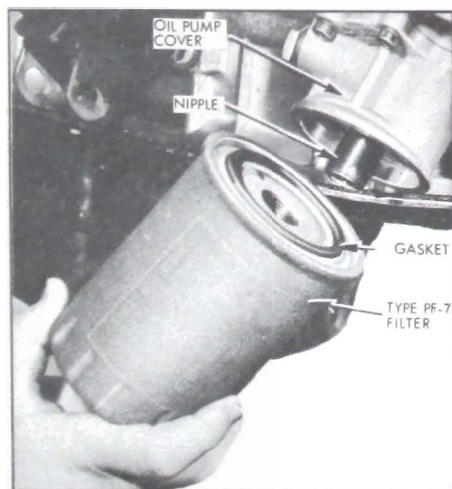

Figure 1-4—Oil Filter Installation
To change, screw filter off the filter base and discard. Wipe the gasket area of the base clean and install a new AC-type PF-7 filter or equivalent. Lubricate the gasket and screw the filter on the nipple until the gasket just touches the base; tighten filter 2/3 turn more. Start engine. Do not accelerate engine beyond the normal idle until oil pressure is indicated. Check the filter area for leaks after the engine has run for five (5) minutes. See Figure 1-4.